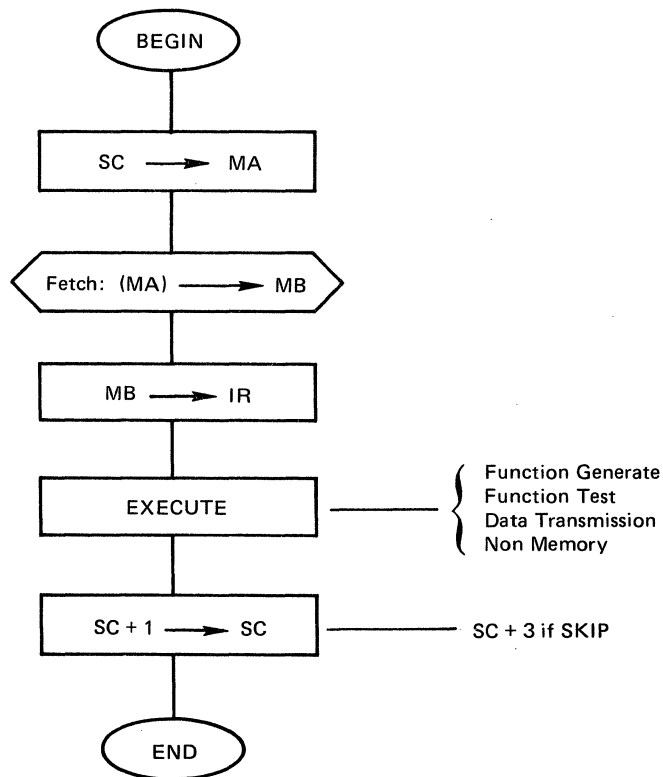
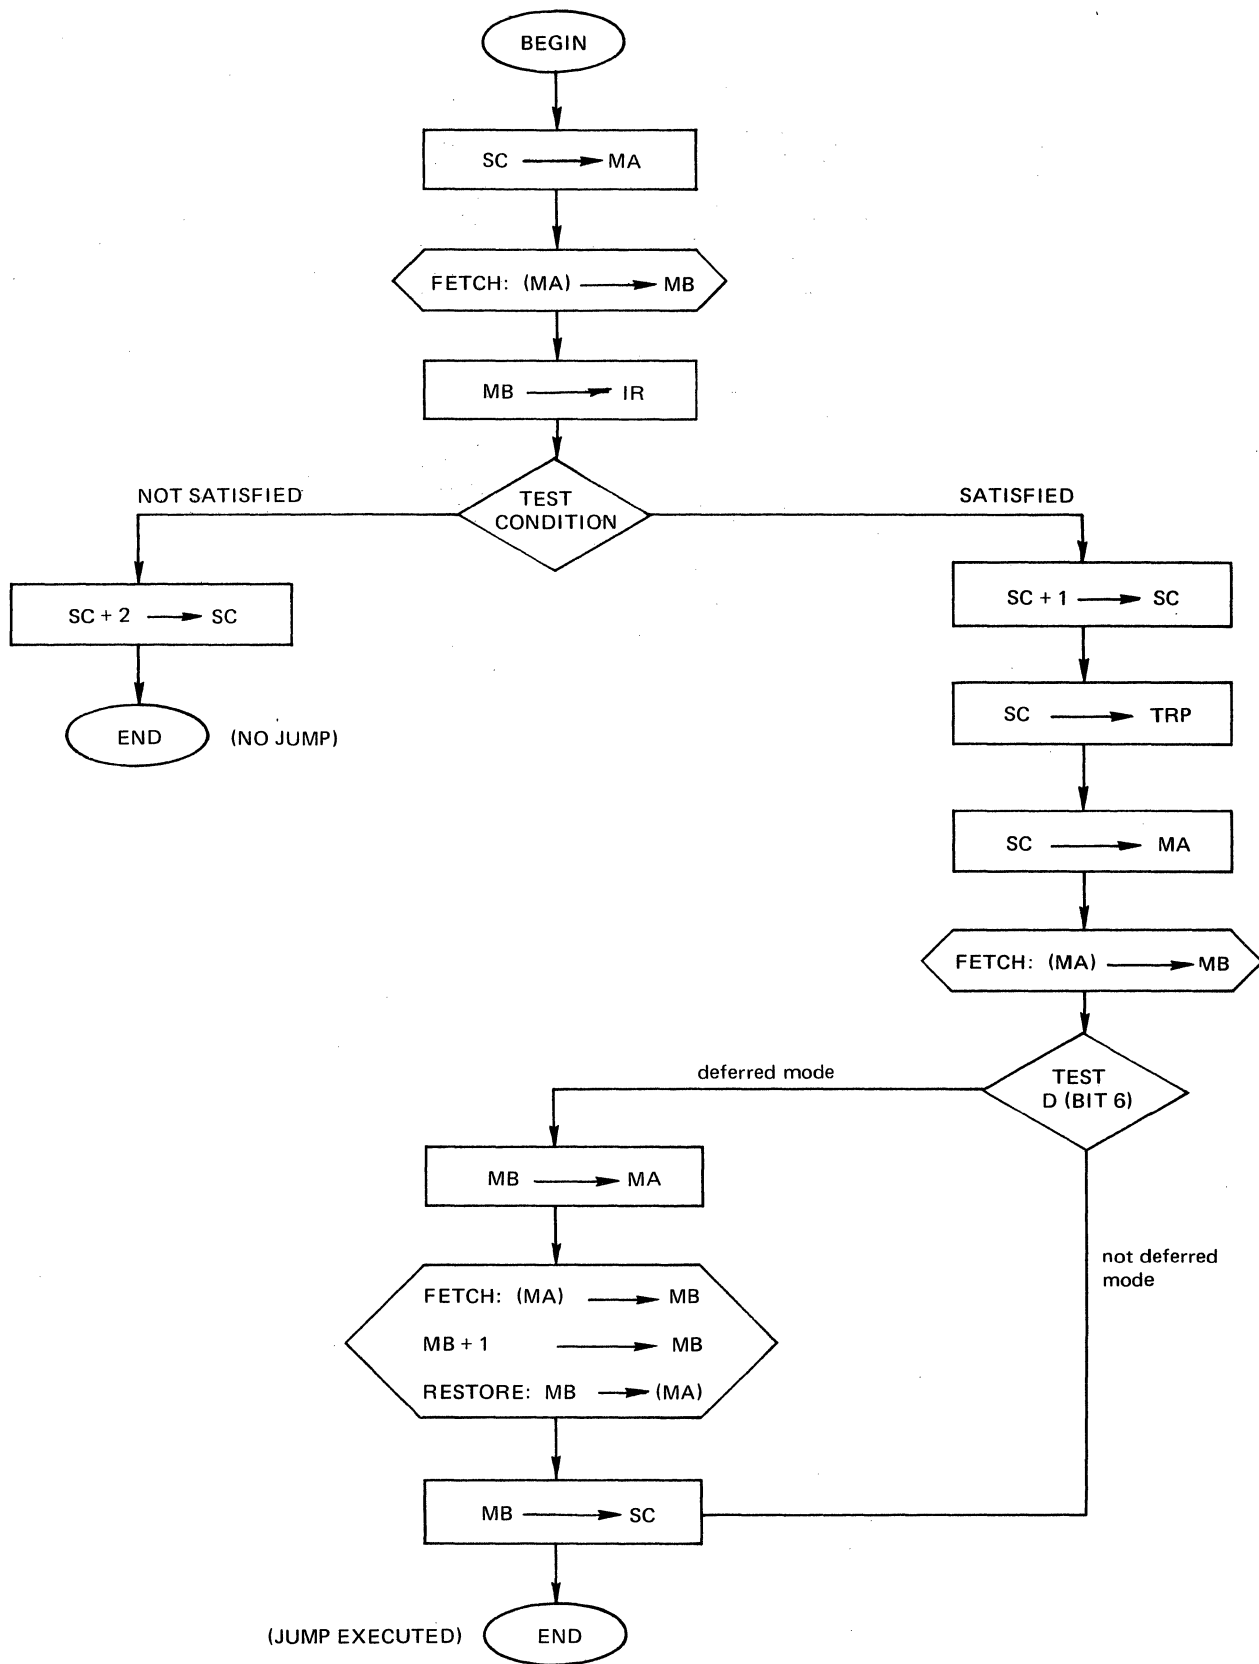
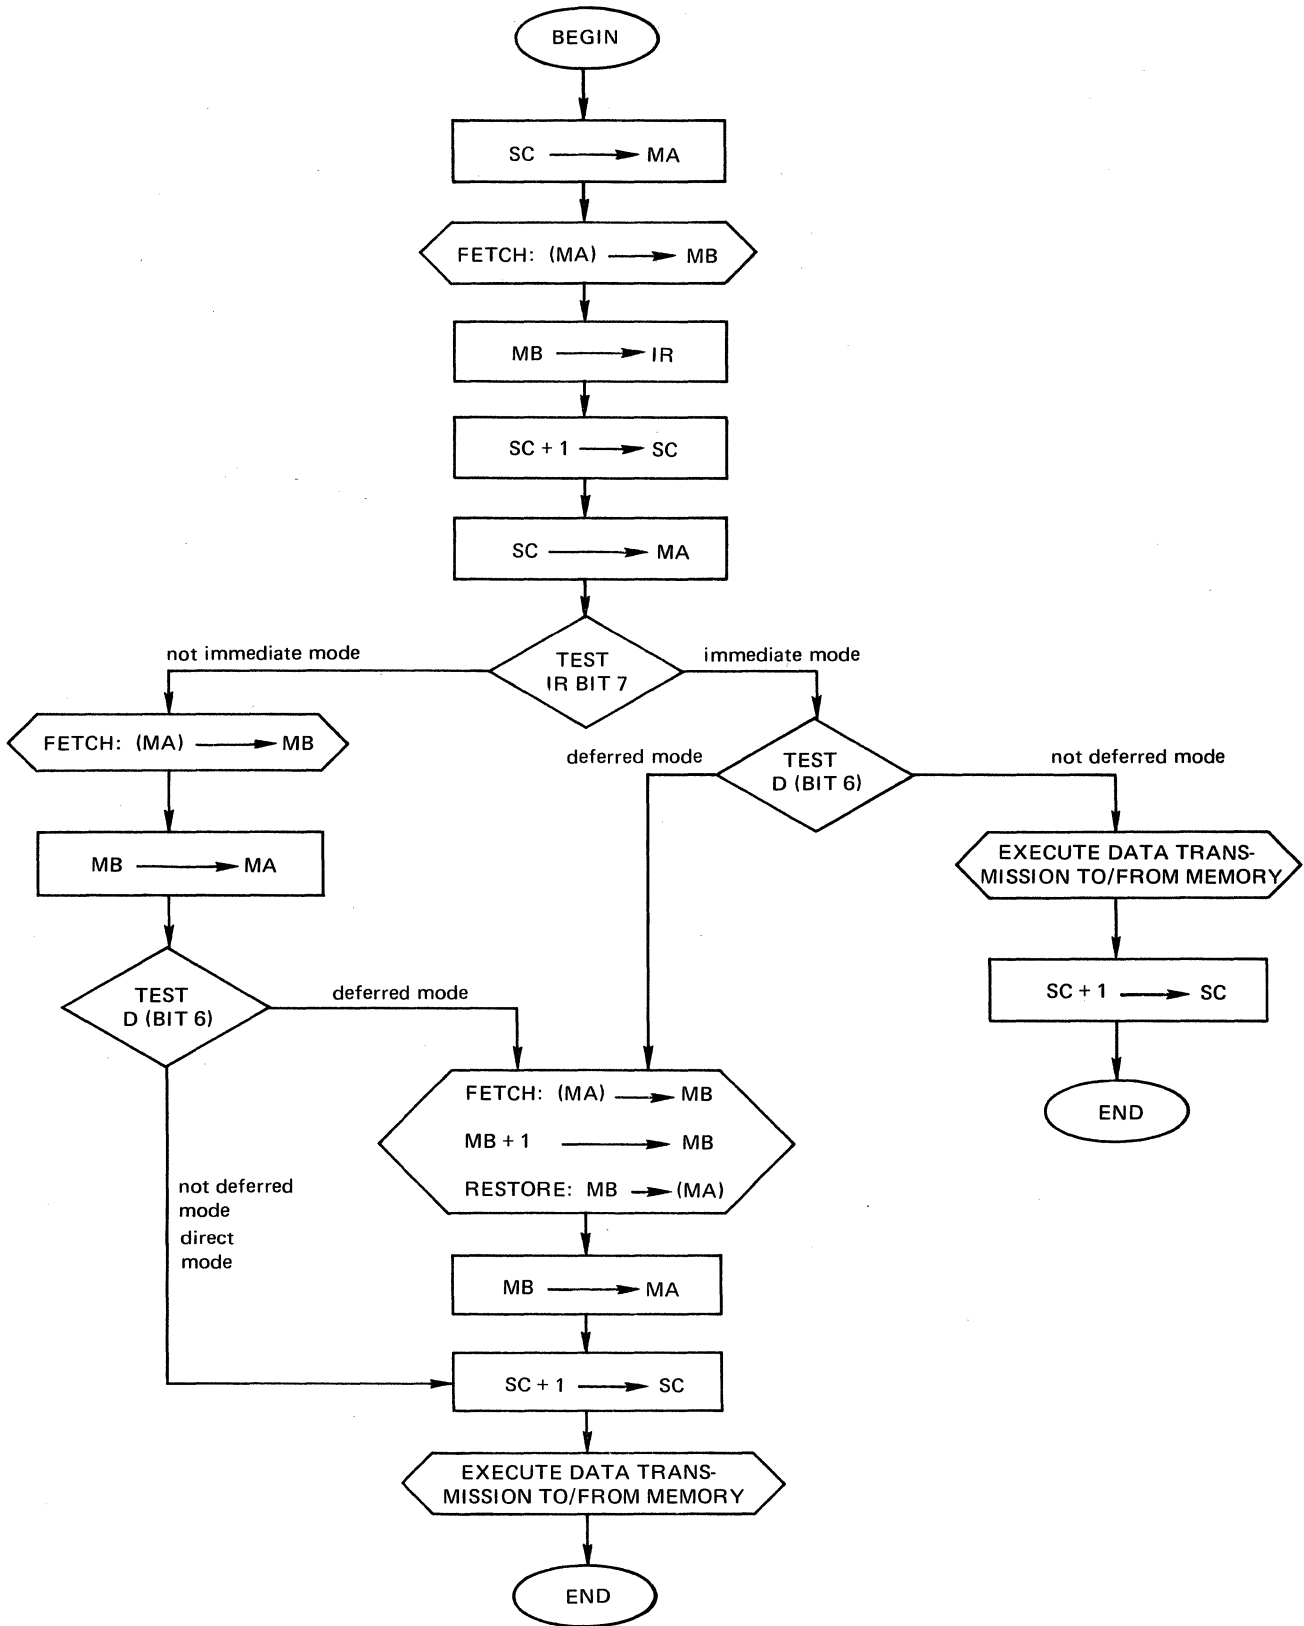

Figure 3-15 Event Sequence for Single-Cycle Instructions
Figure 3-16 Event Sequence for Data Test Instructions
Figure 3-17 Event Sequence for Memory Reference Data Transmission Instructions
**When the programmer is manipulating data within the control registers of the machine (such as the trap or SC), it is quite important to know the event sequence of microinstructions relative to macroinstruction execution. Figures 3-15 through 3-17 show the event sequence of the instructions.**
Figure 3-15 describes all single-cycle instructions. Figure 3-16 describes the Data Test class of instructions, and Figure 3-17 covers memory reference data transmission. In each case, the hexagonal boxes indicate a transfer of information to or from memory. Tables 3-2 through 3-7 are provided to supplement the figures with exact sequence information.